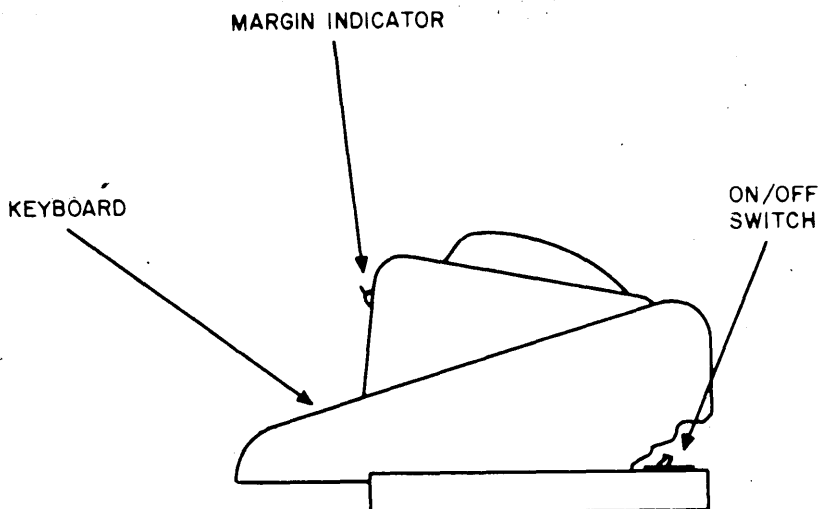

Figure 2-3. Keyboard/Printer, Controls and Indicator.
2-6. Keyboard/Printer. The keyboard/printer on the I/O Console (figure 2-3) contains the controls and indicators applicable to the transmission and receipt of data for the unit. These devices and the function(s) of each are listed in table 2-3.
- j. Ensure that keyboard/printer ON/OFF switch (figure 2-3) is set to ON position.